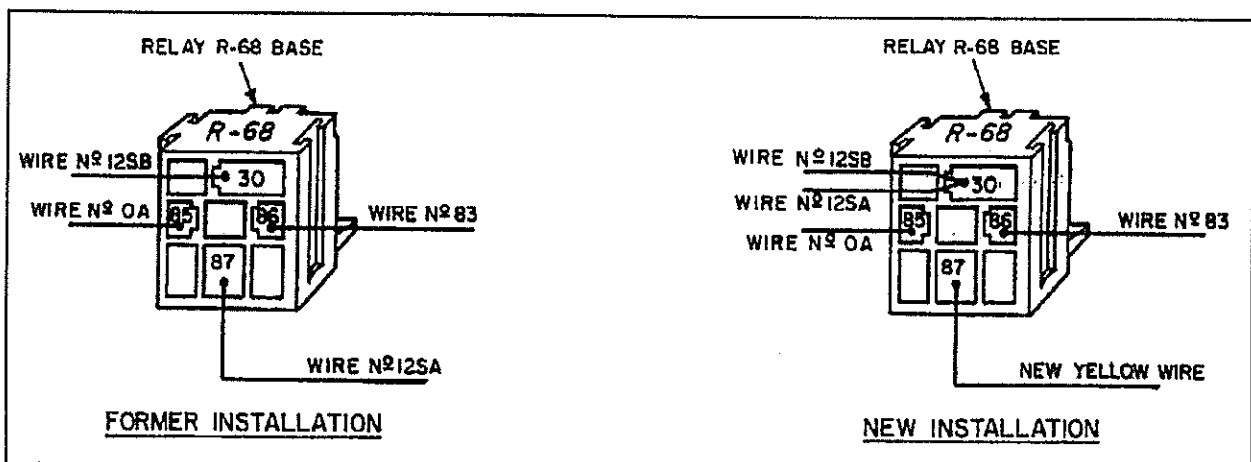

Fig. 2
11. Join wires #12SA and #12SB together, crimp a female connector #56-1181 (supplied with kit), then insert it in position #30 of relay R-68 base. Refer to figure 2.